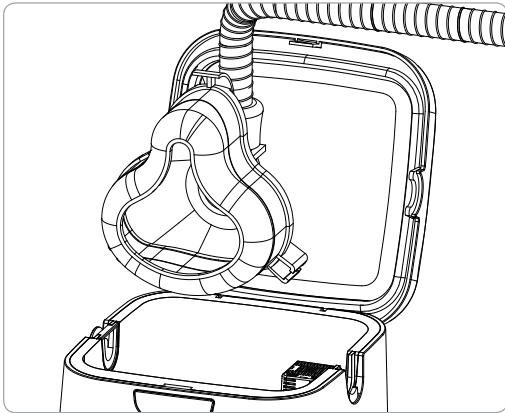

Figure 7. Put PAP mask into Disinfecting Chamber
4. Insert your mask into the Disinfecting Chamber allowing its attached PAP hose to rest in the open hose slot, opposite the Removable Hose Slot Plug (figure 7).